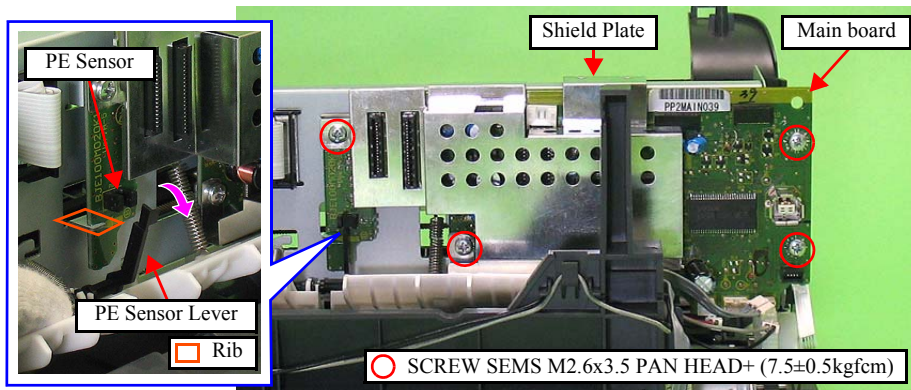

Figure 4-21. Removing the Main Board (2)
- When installing the Main Board, keep the PE Sensor Lever away (as shown in Fig.4-21) to avoid getting broken.
- Before tightening the screws, make sure to insert the Main Board to the rib of the Main Frame, and align the threaded hole of the Main Frame with the hole of the Main Board. (See Fig.4-21.)
- Tighten the screws in the order indicated in Fig.4-21.